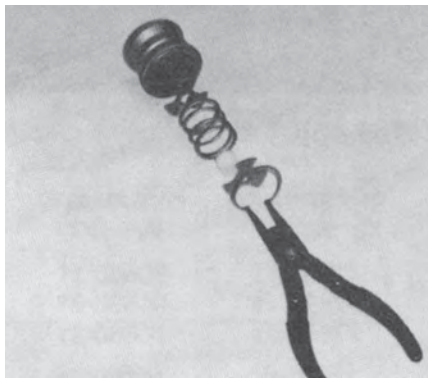

Figure 4-9 Removing shuttle assembly components.
- 4.7.3 Using retainer ring pliers, remove the snap ring (4G) to release the flanges (4), spring (4E), and guide sleeve (4) from the shuttle (4A). See Figure 4.9.